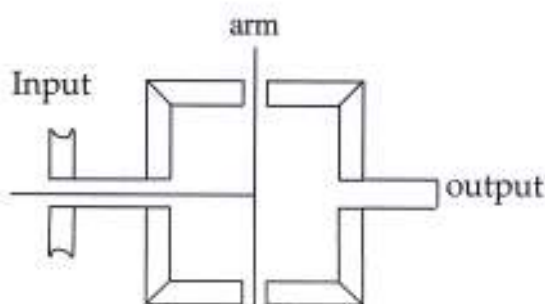

Figure 1. Planetary bevel block
4. a) A four bevel planetary mitre gear block shown in Fig. 1 has been used for a gear hobbing machine, such that output rpm is 10. Determine the input rpm if the arm of the planetary wheel rotates at 25 rpm. **8**